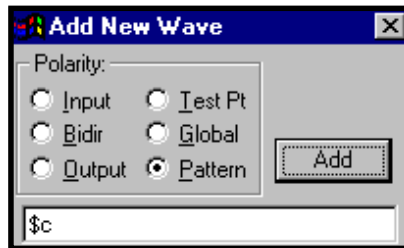

Figure 4-9. Add New Wave Dialog Box
1. Select the **Edit** ⇒ **New Wave** command. The Add New Wave dialog box (Figure 4-9) is displayed.